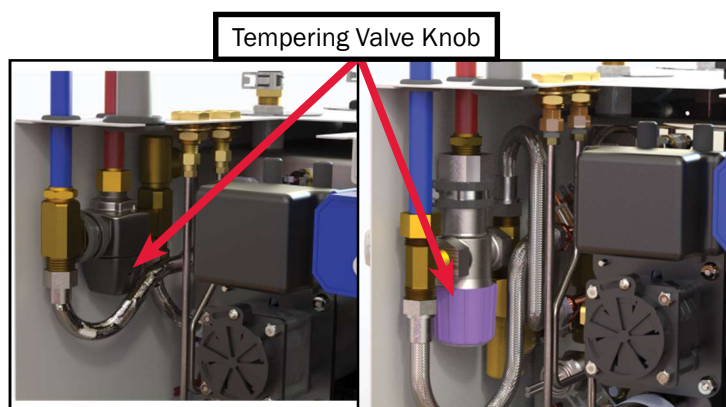

Figure 31
5. Test the tempering valve's functionality by turning the knob (see Figure 31). If the knob does not rotate, this tempering valve will need to be replaced. On newer heaters, it will be necessary to remove a black plastic cap from the body of the tempering valve.